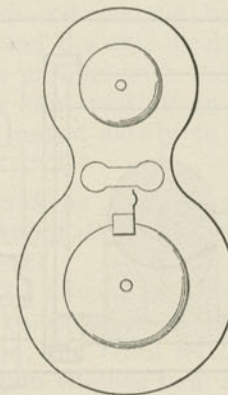

Fig. 373. Broken Wheel Hub.
A. By a dovetail or dumbbell piece, fitting in an opening made by slotting out between two drill holes. The piece should be driven in hot and let draw the parts together. The recess should be undercut (Fig. 373).